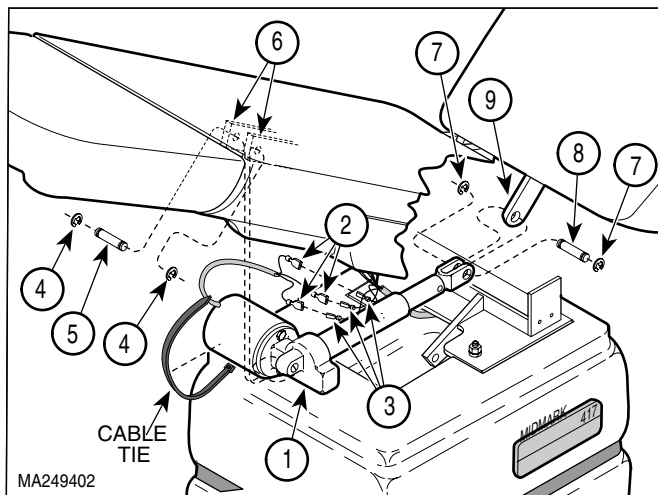

Figure 4-21. Back Actuator Assembly
- (3) Unplug power cord from wall outlet.
- (4) Cut cable tie securing wires to motor of back actuator assembly (1, Figure 4-21).
- (5) Tag and disconnect three back actuator wires (2) from three wires (3).